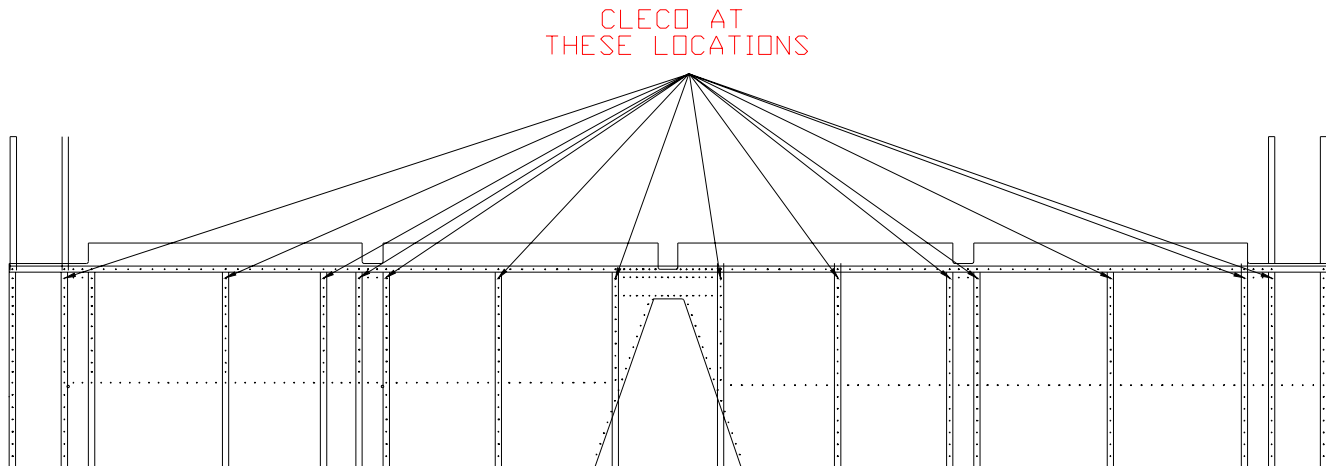

Figure 3.3.1
- 1) Take the Elevator Skin (EL-310) and cleco it to the spar assembly using the guide holes in the Elev/Rud Ribs that correspond to the Skin. **NOTE:** Allow the opposite side of the skin to over hang the table. Figure 3.3.1.